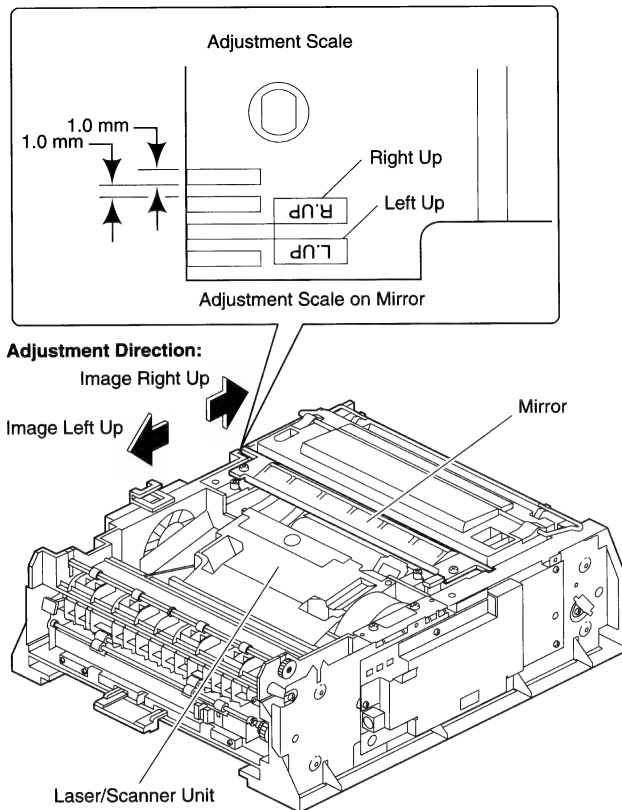

Figure 13 Readjusting the Mirror Alignment
5. If the error is more than 1.5 mm, shift the scale in 1 mm increments to correct the error. Shift the mirror towards the laser/scanner to move the left side of the image up; shift the mirror away from the laser/scanner to move the right side of the image up (see Figure 13).